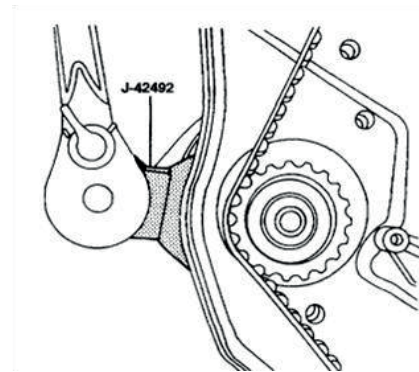

FIG. 5
4. Rotate water pump anticlockwise, using special adjustment tool (Gates: GAT V501A or OE: J-42492 or KM-421-A), to release tension on the belt (Fig. 5).